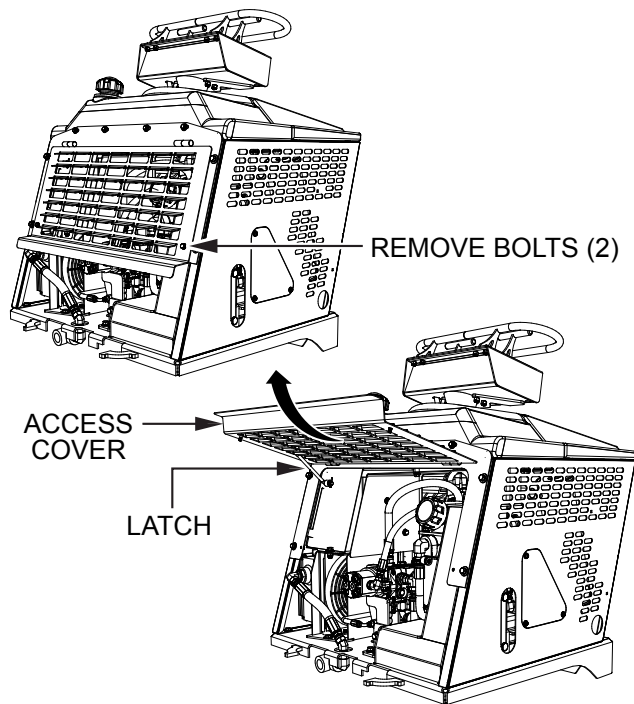

Figure 38. Access Cover
6. Remove the two bolts that secure the access cover (Figure 38) to the buggy frame.
7. Lift up on the access door and secure the latch (Figure 38).